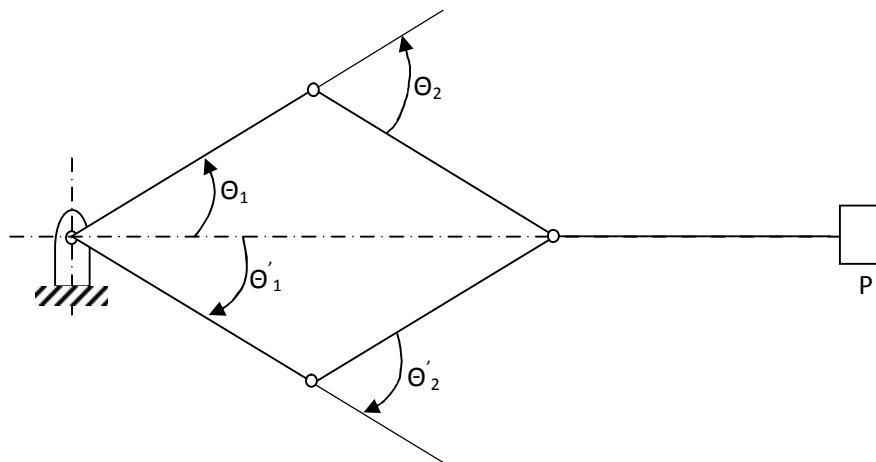

Figure 4.1
- Q4** a) Derive the forward kinematic equations using Denavit-Hartenberg notation for a three link planner manipulator. (10)
- b) Obtain the inverse kinematics solution for the 3-degree of freedom planner manipulator shown in the figure 4.1. (10)